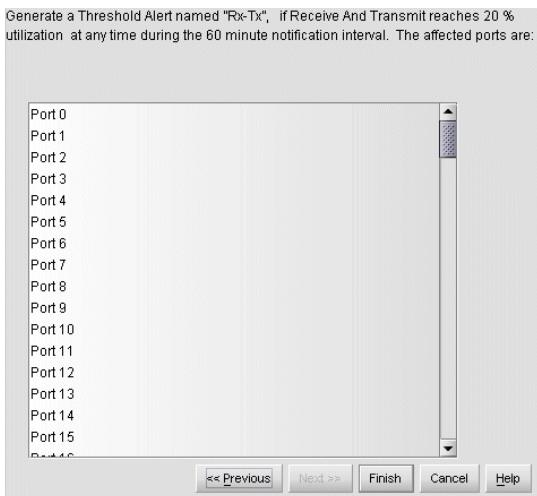

Figure 35 New Threshold Alerts dialog box—summary screen
- 11.** Click **Next**. A final screen is displayed to provide a summary of your alert configuration, as shown in Figure 35.